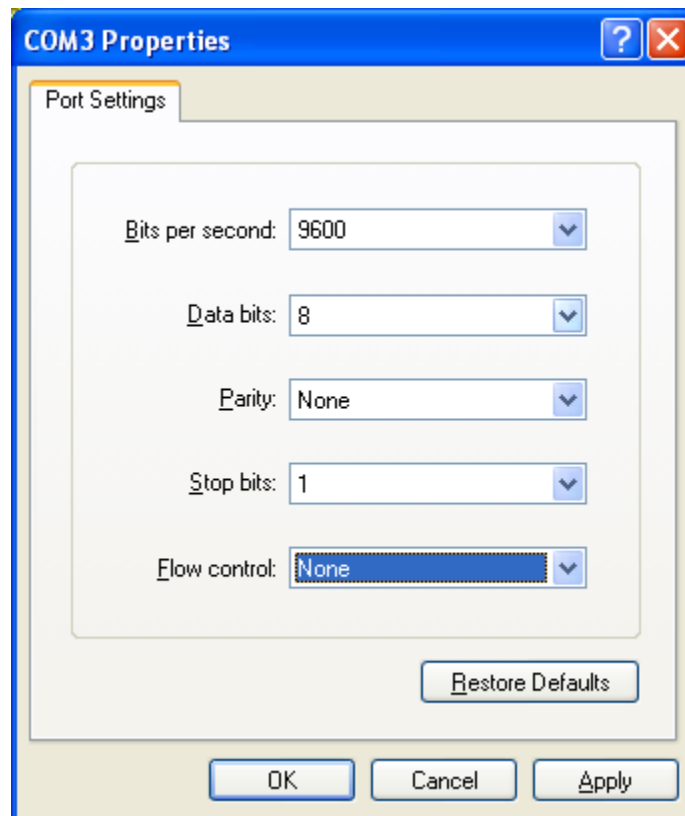

Figure 25 HyperTerminal Port Settings
As a first step to trouble-shooting PC or software problems, you want to make sure that your PC can properly communicate with TEMP08. HyperTerminal, which comes with every Windows based PC, can be used to monitor communications with TEMP08. HyperTerminal is usually located in the Windows Start folder under Accessories/Communications. Figure 25 shows what the settings should look like (COM3 shown in this example – choose your COM port to match the RS232 connection to TEMP08):
3. Are the RS232 port settings properly configured (see Figure 25)?